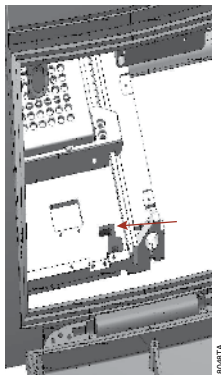

Figure 75. Replacing the Microplate Sample Tray Break-Away tab.
4. Use a Phillips screwdriver to remove the broken Break-Away tab and replace it with a new tab, included with the instrument accessories (Figure 75; see also Figure 1, J.).